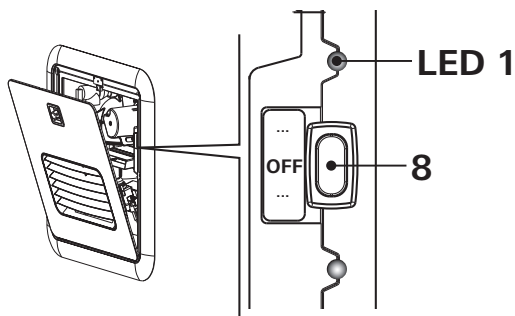

Fig. 8
2. Switch off the Truma AquaGo™ instant water heater at mode switch (Fig. 8).